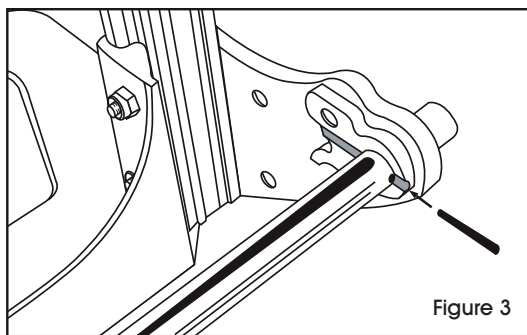

Figure 3
1. Insert axle through hole in axle supports. Align holes in axle with grooves on back of the axle support. Use a hammer to tap in the round pins. (See Figure 3)